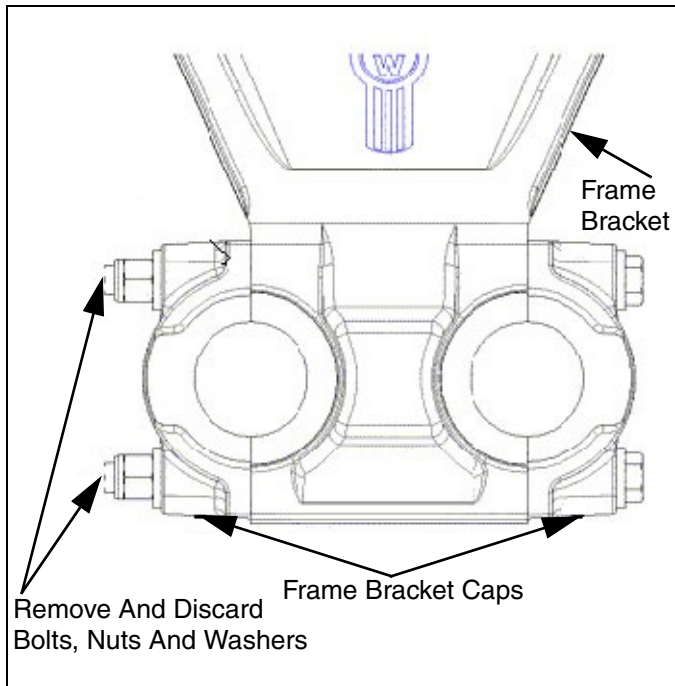

Figure 15-9
1. Remove and discard the fasteners from each frame bracket and cap joint. See Figure 15-9.